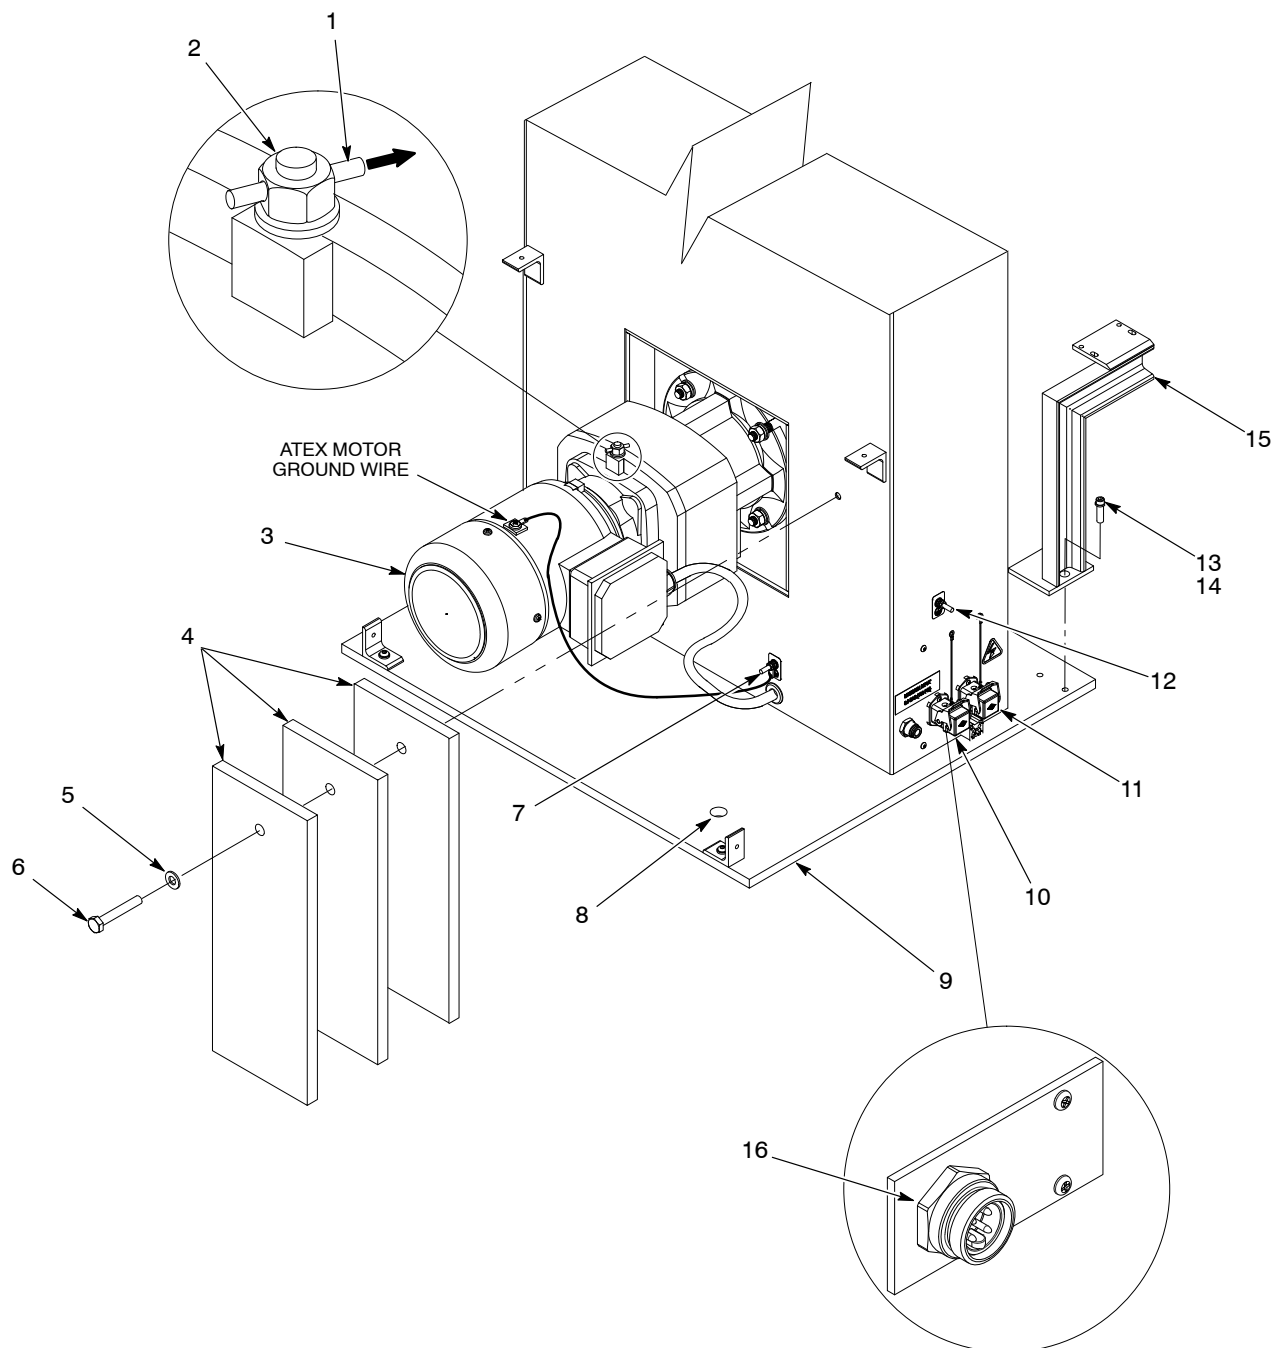

Figure 3 Installation
- b. See Figure 3. Install the counterweights (4) to the oscillator using the screw and (6) and lock washers (5). Tighten the screw securely.
2. If mounting the reciprocator to the floor or a fixed stand, use the existing four mounting holes (8). If necessary, drill new holes into the base or floor. Use properly sized fasteners to secure the reciprocator.
3. Remove the rubber plug (1) from the pressure vent (2).
4. Install the cable bracket (15) to the oscillator base (9) using the screws (13) and lock washers (14). Tighten the screws securely.
See Figure 3. Ground the oscillator using the grounding post (6) to a true earth ground. Test the ground and make sure it meets local code requirements.
**ATEX MOTOR ONLY:** If the oscillator has an ATEX motor, make sure that the gear motor ground wire is attached to the ground post (7).
- a. See Figure 3. Connect the motor cable from the system controller to the connector (10).